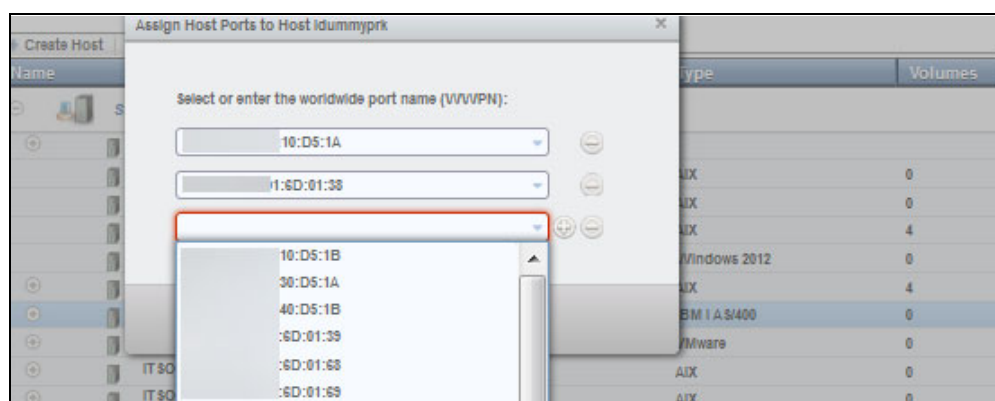

Figure 11-77 Assign host ports to a host
2. This action opens the Assign Host Ports to Host window. See Figure 11-77.
Select from one of the WWPNs that are shown in the drop-down list, or manually enter the WWPN of the HBA of the host that you are adding. You can select multiple WWPNs by clicking + as shown in Figure 11-77. Click **Assign** to complete.